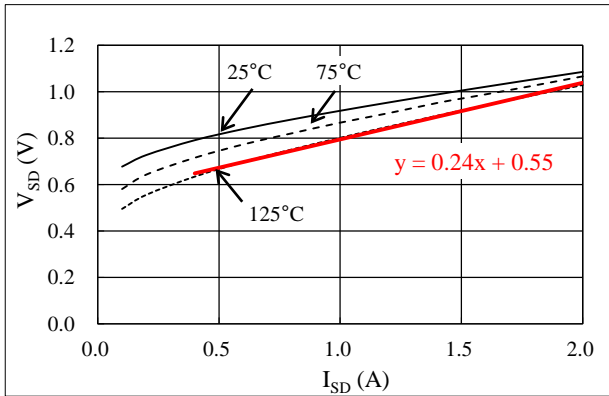

Figure 14-3. Linear Approximate Equation of  $V_{SD}$  vs.  $I_{SD}$  Curve
Steady-state loss in the body diode of a power MOSFET can be computed by using the  $V_{SD}$  vs.  $I_{SD}$  curves, listed in Section 15.3.1. As expressed by the curves in Figure 14-3, linear approximations at a range the  $I_{SD}$  is actually used are obtained by:  $V_{SD} = \alpha \times I_{SD} + \beta$ . The values gained by the above calculation are then applied as parameters in Equation (9), below. Hence, the equation to obtain the body diode steady-state loss,  $P_{SD}$ , is: